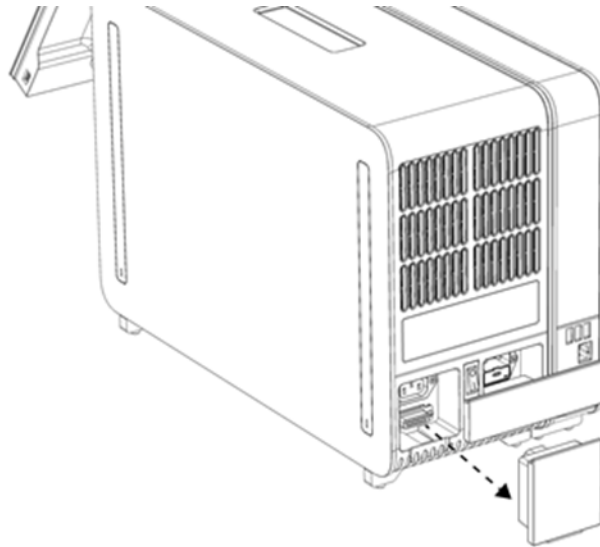

Figure 12. Removing the Termination Bridge.
- d. Remove the Termination Bridge from the back of the Analytical Module (Figure 12).